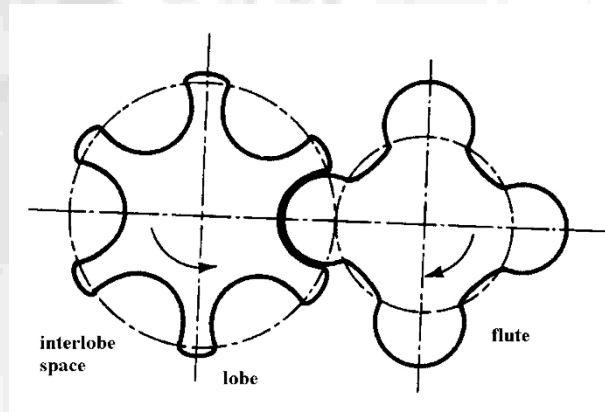

Fig.10-11 Cross section of the two rotors of a screw compressor
- ◆ A cross view of the two principle rotating elements of the screw compressor is shown in Fig.10-11.